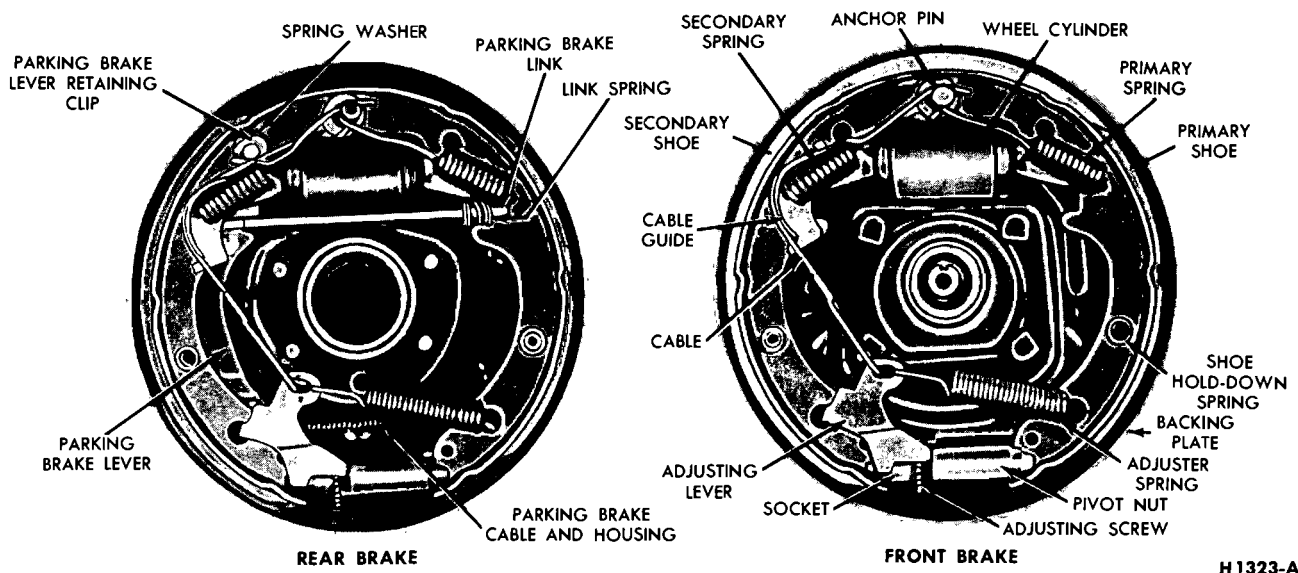

FIG. 9—Self-Adjusting Brake Assemblies—9 Inch Drum
An independent hand-operated parking brake control actuates the rear wheel brake shoes through a cable linkage. The operating cable is routed from the parking brake control assembly to the equalizer pivot lever which is attached to the equalizer assembly to the floor pan. The rear brake cables connect the equalizer assembly to the parking brake lever at each rear secondary shoe as shown in Figs. 9, 10 and 31.
An independent foot-operated parking brake control actuates the rear wheel brake shoes through a cable linkage. The operating cable is routed from the parking brake control assembly to the equalizer. The rear brake cables connect the equalizer assembly to the parking brake lever at each rear secondary shoe (Fig. 9).
6. After removing the rear brake shoes disassemble the parking brake lever from the secondary shoe by removing the retaining clip and spring washer (Figs. 9 and 10).
3. Position the brake shoes on the backing plate and secure them with the hold down springs. On the rear brake, install the parking brake link and spring. Connect the parking brake cable to the parking brake lever (Figs. 9 and 10).
Install the cable guide on the secondary shoe web with the flanged hole properly fitted into the hole in the secondary shoe web. Install the secondary spring (secondary shoe to anchor spring) (Figs. 9 and 10).
10. Position the hooked end of the adjuster spring completely into the large hole in the primary shoe web. The last coil of the spring should be at the edge of the hole. Connect the loop end of the spring to the adjuster lever hole (Figs. 9 and 10).